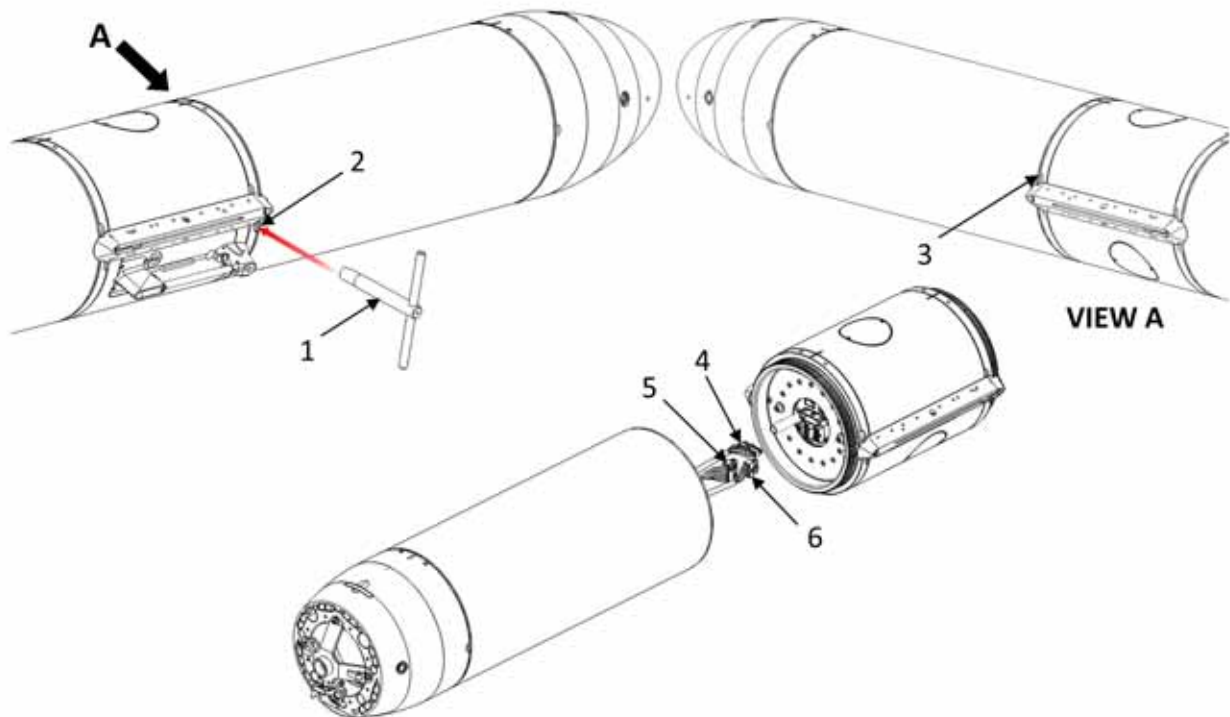

Figure 2-2 Forward assembly (Shallow or Deep).
1. Using the hull separation tool (Figure 2-2, Item 1) at locations 2 and 3 in Figure 2-2, disengage the forward hull section from the from the forward assembly.
2. Disconnect the connectors (Figure 2-2, Items 4-6) from the payload bay.
2. Connect the connectors (Figure 2-2, Items 4-6) from the forward assembly to the payload bay.